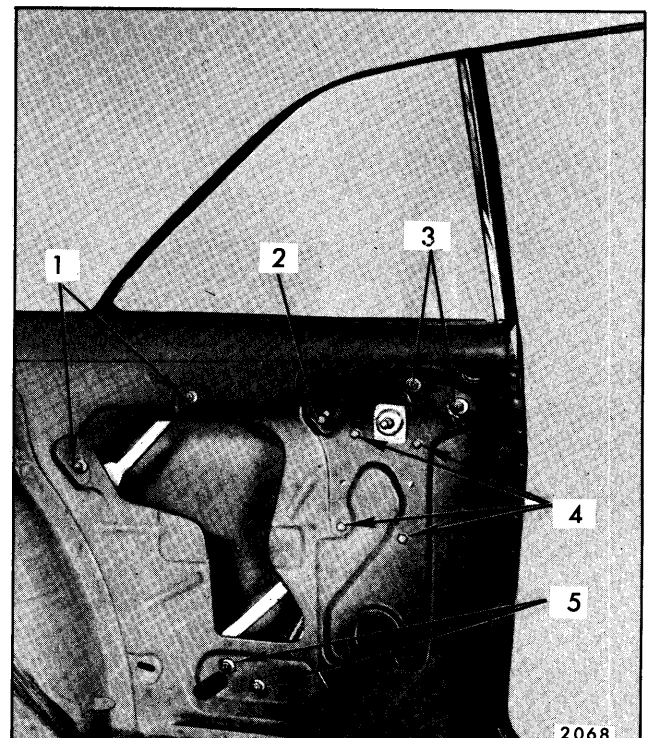

Fig. 7-40—Rear Quarter Hardware - "Z" Styles
2. On "Z" styles, remove front guide upper and lower adjusting stud nuts (see Figs. 7-40 and 7-41, which are typical of "Z-37, 67" and "E-87" styles).